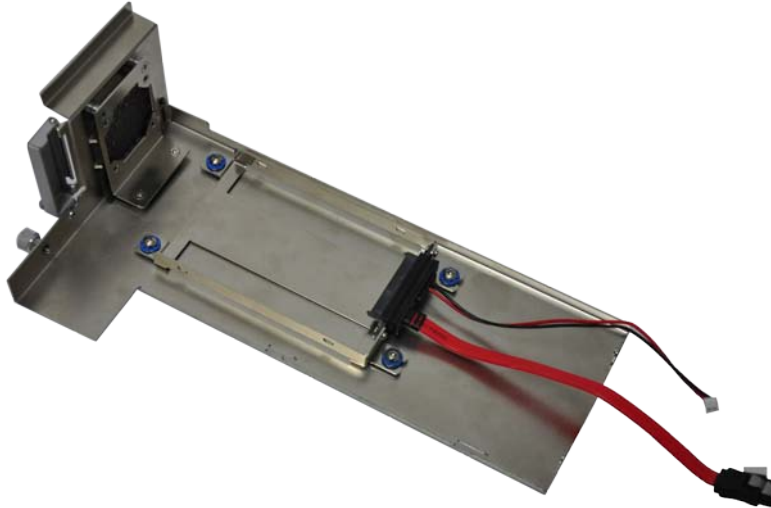

Figure 3-5: Remove the Cover from TANK-820-H61
Step 2: Unplug the SATA signal and power cables connected to the TANK-820-H61, and then put the cover on a flat surface (**Figure 3-5**).
Step 2: Unplug the SATA signal and power cables connected to the TANK-820-H61, and then place the cover on a flat surface (**Figure 3-5**).